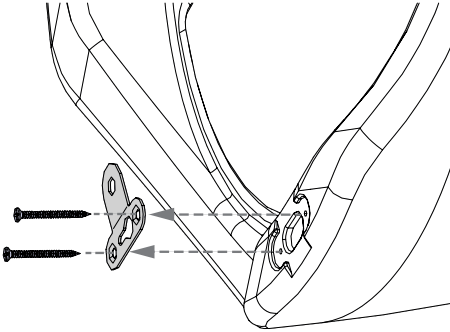

Figure 7a: Remove Keyway
2. Remove three attached keyways (as shown in **Figure 7a**) from the underside of the subwoofer.